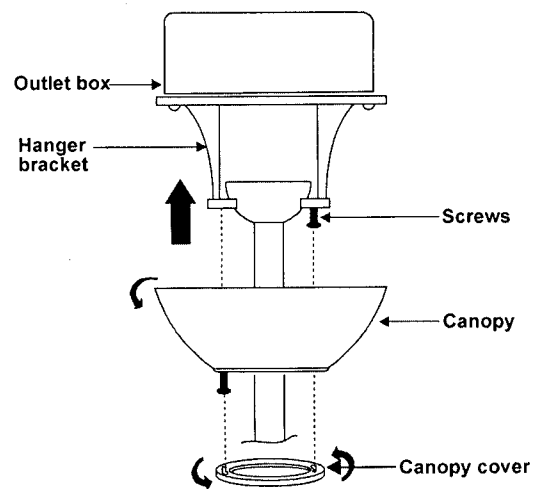

Figure 13
6. Slide the canopy up to hanger bracket and place the key hole on the canopy over the screw on the hanger bracket, turn canopy until it locks in place at the narrow section of the key holes. (Fig. 13)